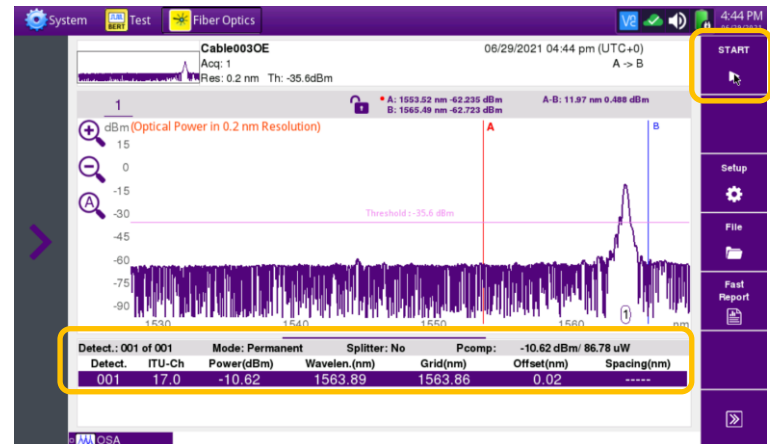

Figure 8: Test Results
2. The OCC will sweep the entire DWDM wavelength range. Results will be shown in graphical and tabular formats as shown in *Figure 8: Test Results*.